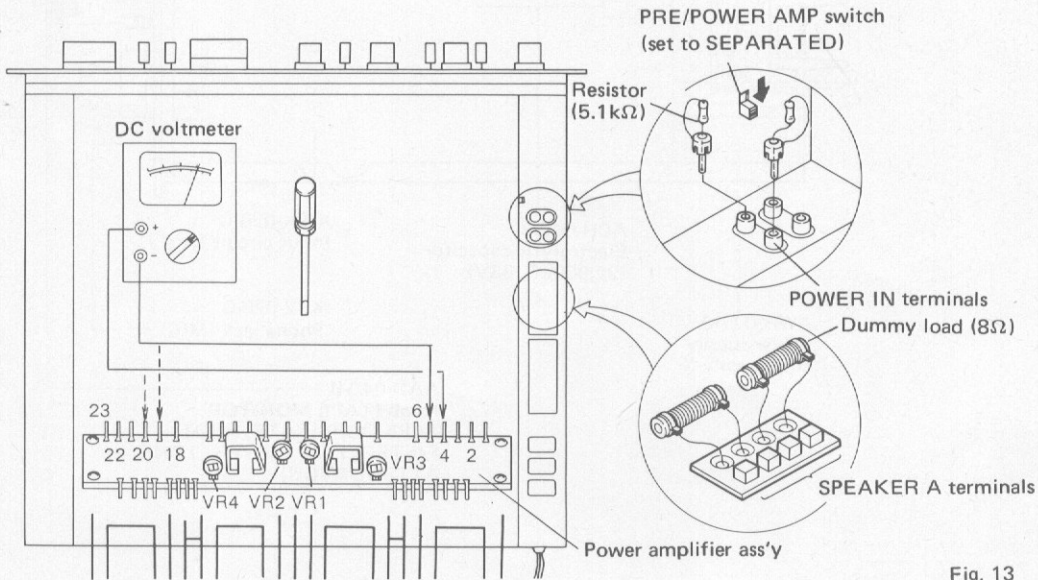

Fig. 13
- (1) Set the PRE/POWER AMP switch to the SEPARATED (lower) position.
- (2) Fit $5.1\text{k}\Omega$ resistors to the POWER IN terminals as shown in Fig. 13.
- (3) Connect 8Ω dummy loads between the SPEAKER A terminals as shown in Fig. 13.
- (4) Set the SPEAKERS switch to position A. Turn on the POWER switch.
- (5) Connect a DC voltmeter (100mV/full scale) between pins 4 and 5. Adjust VR1 until the voltmeter indicates 0V.
- (6) Connect the DC voltmeter between pins 20 and 19. Adjust VR2 until the voltmeter indicates 0V.